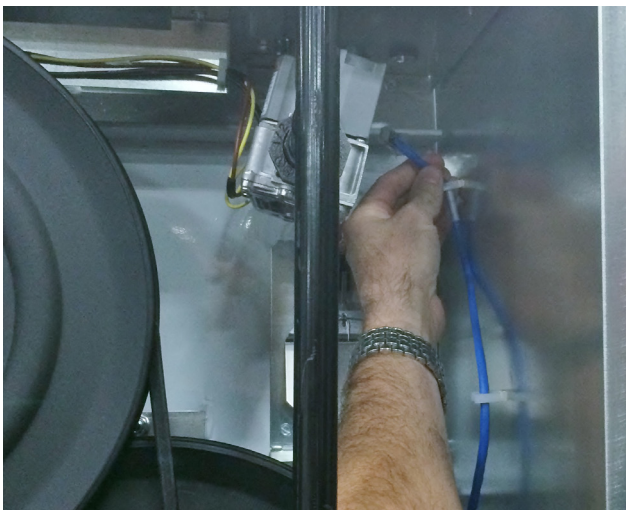

Figure 7
20. With belt guard removed, route cable up through guard (Figure 7)